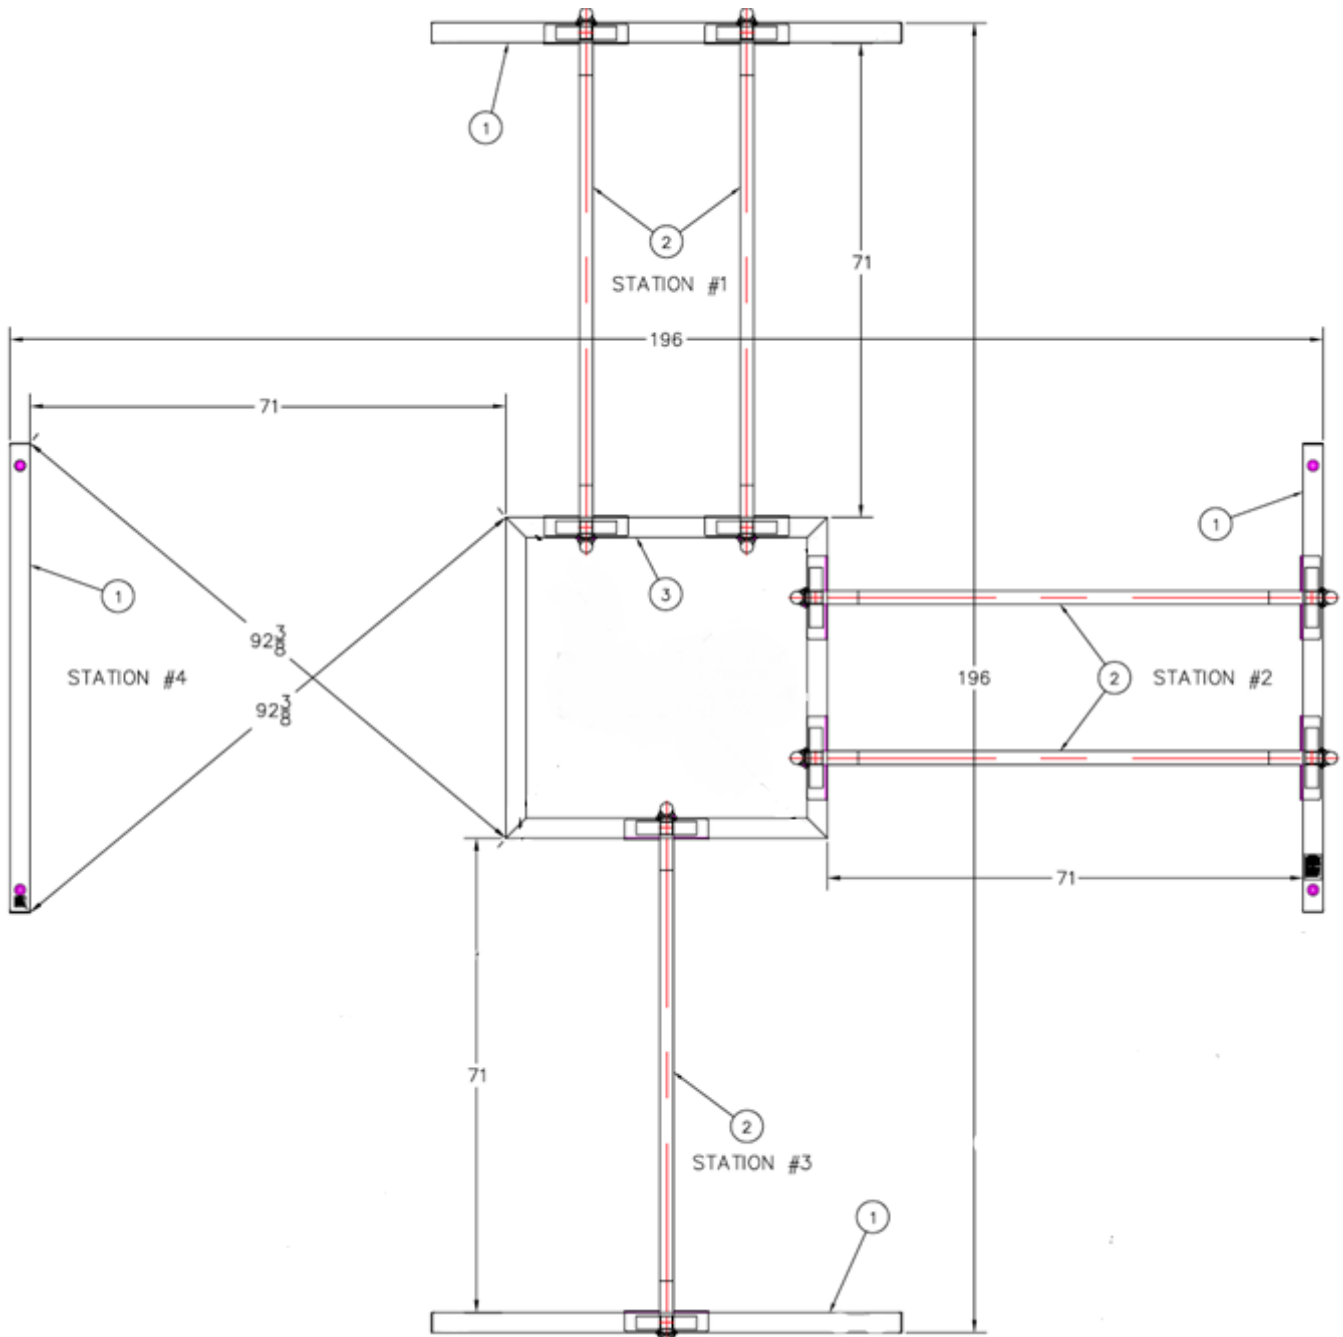

Fig. 3
2. Position the 4 Base Leg assemblies (#355-01), around the **4-Station Circuit Base**, as shown in **Fig. 3** on the next page.